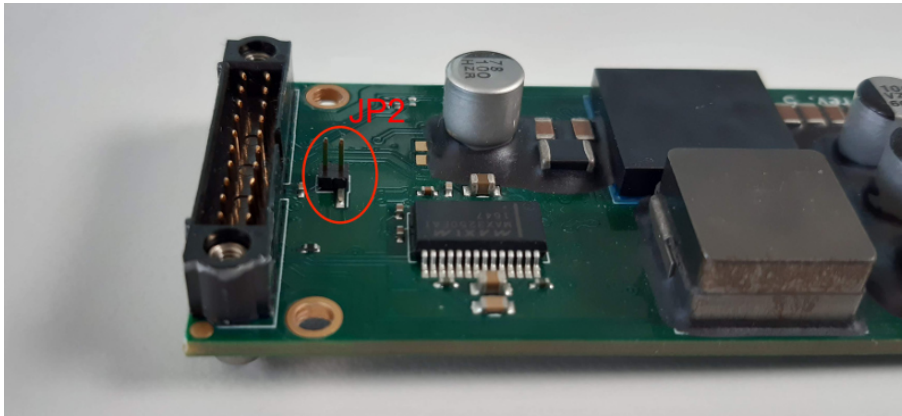

Figure 6.2: Jumper to short INTERLOCK with MCU\_OUT\_INTERLOCK
*Note:* It is also possible to short the MCU\_OUT\_INTERLOCK with IN\_VREG\_INTERLOCK by connecting the jumper "JP2" directly on the driver PCB. The two pins are located near the input end of the PCB, as shown in Fig. 6.2.